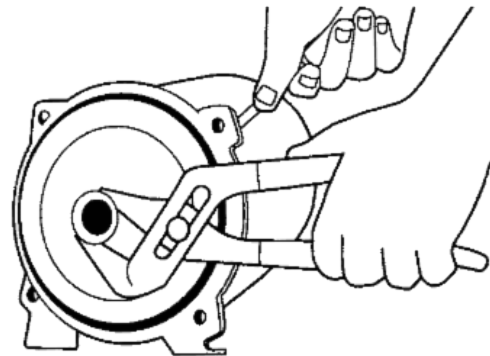

Figure 16: Remove Impeller
4. Remove the impeller by holding the pump shaft with a screwdriver placed in the slot end of the motor shaft and rotating the impeller counterclockwise (Figure 16).